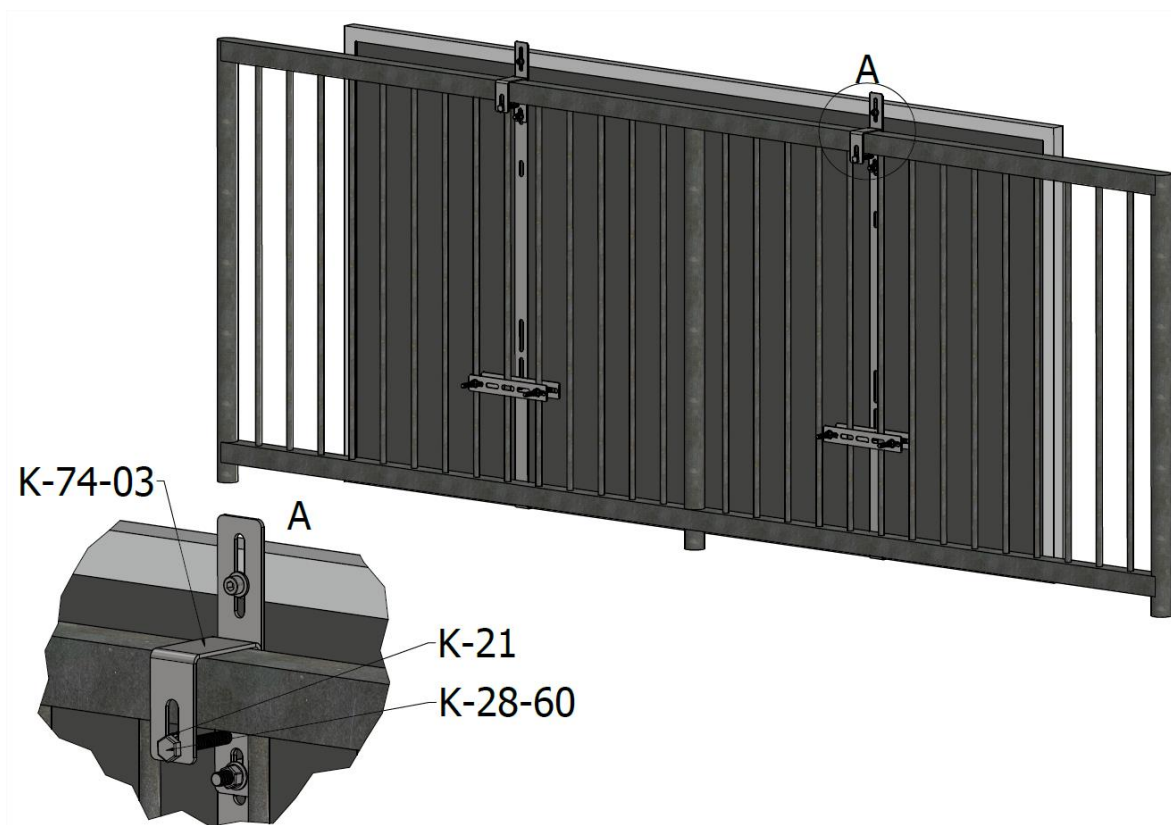

FIG.9 *Installation of the safety bolt*
8. In the next step, place the K-28-60 hexagonal bolt in the prepared hole in the K-74-03 element and screw on the opposite side with the K-21 nut (FIG.9). The purpose of this bolt is to protect the structure from falling.